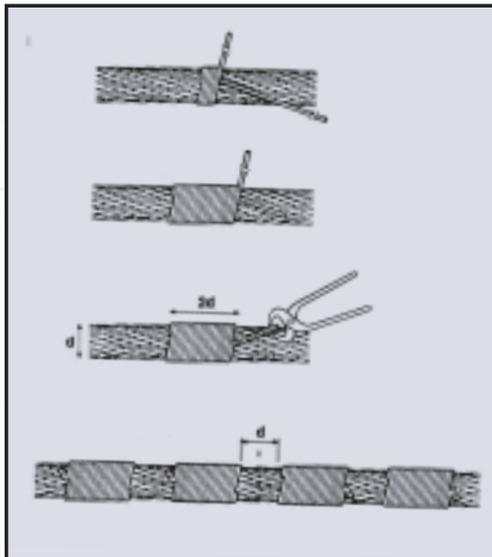

Fig 10
- 3.12** Take particular care and note the manufacturer's instructions when the rope is required to be cut. Apply secure servings on both sides of the cut mark. (See Fig. 10 for typical method of applying a serving to a multi-layer rope.)
One serving either side of the cut is normally sufficient for preformed ropes. For non-preformed ropes, multi-layer (i.e. rotation-resistant and low rotation ropes) and parallel closed ropes (i.e. DSC ropes) a minimum of two servings each side of the cut will be necessary (See Fig. 10).